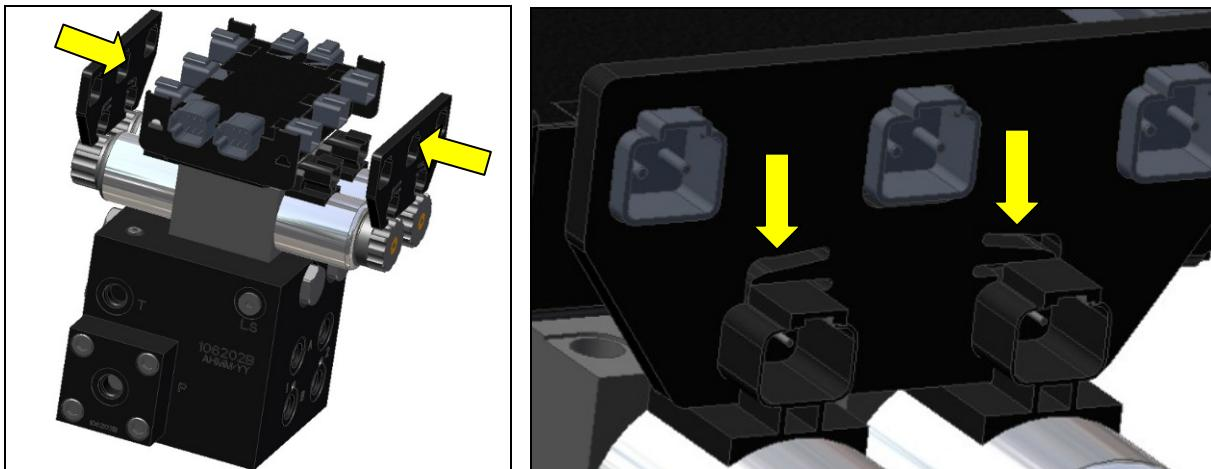

Figure 21: Valve Module Bracket Installation
3. Place the valve module between the valve coils. Slide a valve mounting bracket over the connectors of the valve module and the valve coil connectors. This may require flexing the plastic bracket slightly (**Figure 21**).